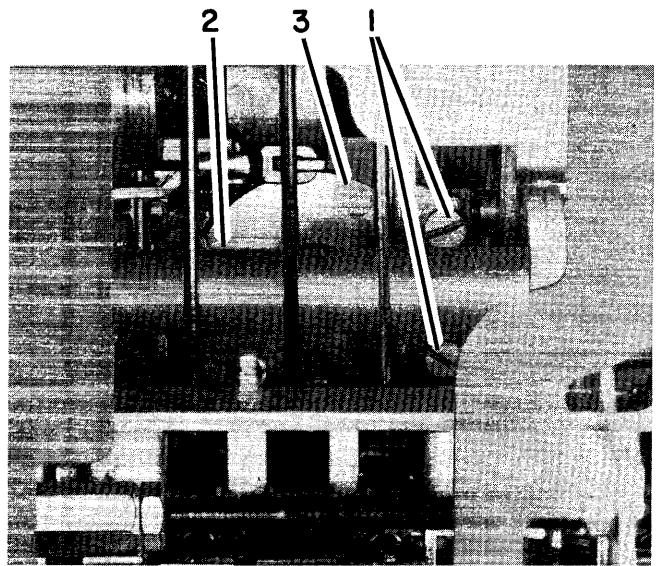

Figure 14. Rotate Spring Replacement
- a. On older machines, back out the two screws (#1, Figure 14) on the right 1/4" and remove the screw on the left, which is under the cycle shaft (#2, Figure 14).
- b. On newer machines, remove the lower right and left screws and back out the upper right screw 1/4" (Figure 14).
7. Remove the striker and rotate-spring retaining plate (#3, Figure 14). The rotate spring can now be removed.